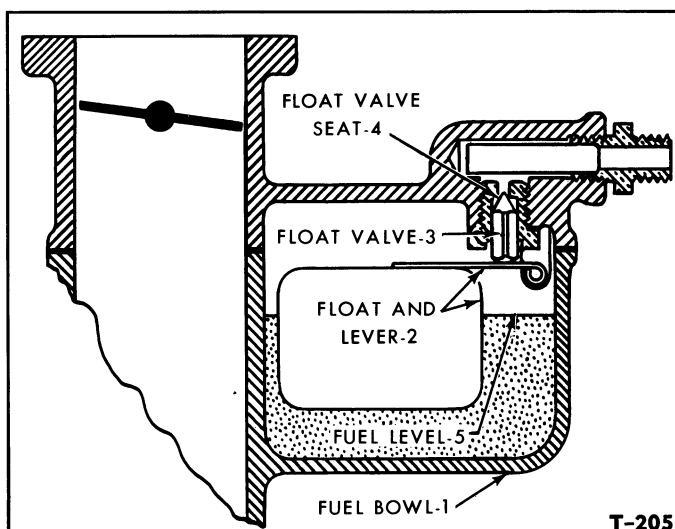

Figure 2—Float System
To understand the operation of a carburetor it is necessary to bear one basic fact in mind. The only function of a carburetor is to mix air and fuel and supply that mixture to the engine in the proper amount, and at the proper time. The Ford tractor carburetor is made up of four systems, see Figures 2 through 5. These systems are: the float system, the idle system, the power fuel system, and the choke system. Each system except the float system supplies a fuel air mixture to the engine under different conditions of engine demand. Therefore, with all the systems functioning properly, the carburetor supplies the correct fuel air mixture through the entire range of engine operation.
1. The float system, as shown in Figure 2, controls the level of the gasoline in the carburetor fuel bowl, and admits fuel as necessary to maintain the proper fuel level throughout the operating range of the engine. As the fuel level lowers, the float lowers and the float valve (3), Figure 2, opens to admit more fuel to the float bowl. As the fuel reaches the operating level, the float raises, closing the float valve, which shuts off the fuel supply. Actually, during normal opera-